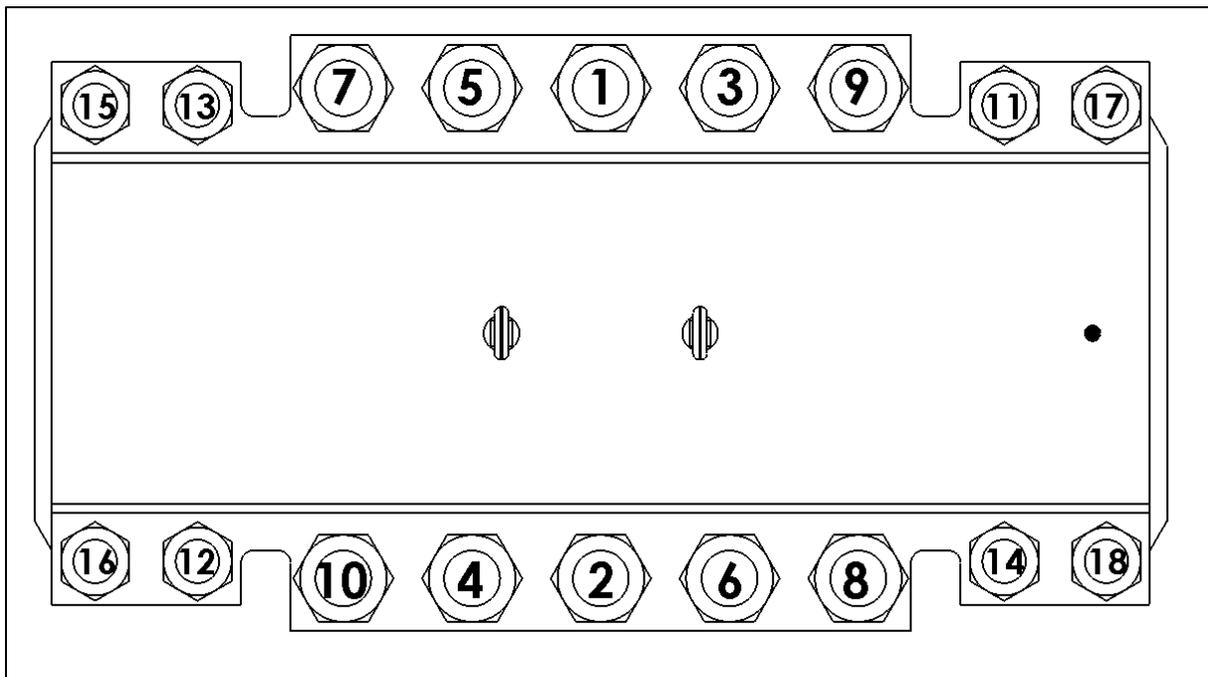

Figure 5
- Torque all of the studs and nuts on the PLIDCO Clamp+Sleeve uniformly, using the **Torque Values for Sealing Section** in the *PLIDCO Torque Chart for Clamp+Sleeve* located on the last page. The actual fitting may have more or less bolts. The best results are obtained by maintaining an equal gap all around between the sidebars while tightening the studs. Ensure there is full nut engagement by maintaining a minimum of 1/4 inch (6.4 mm) of stud extending beyond the nut. The sequence for torquing the studs and nuts will be similar to the numerical pattern of Figure 5, and will be executed repeatedly as follows: